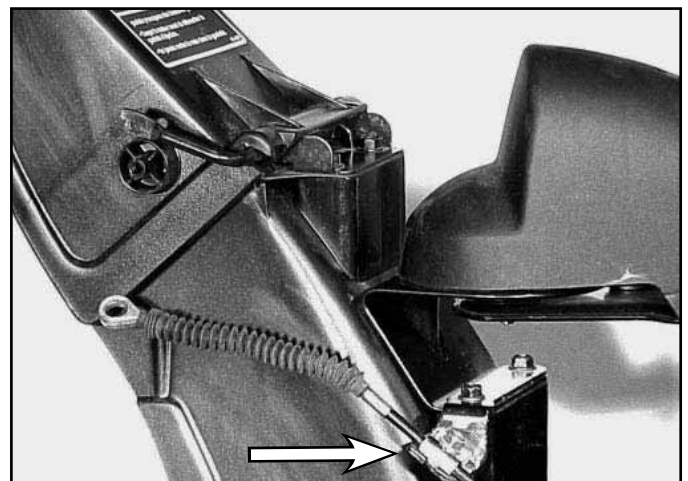

Fig 036
2. Remove the cable clamp and disconnect the cable end from the deflector. Reverse this process to install a new cable (Fig. 036).
Make sure the Quick Stick is in the maximum rear position and centered (Fig. 037); ensure the deflector is in the full upward position. Draw the slack out of the cable and secure the clamp (Fig. 036).